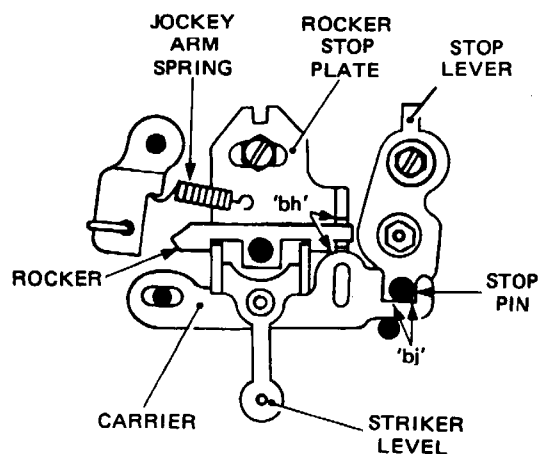
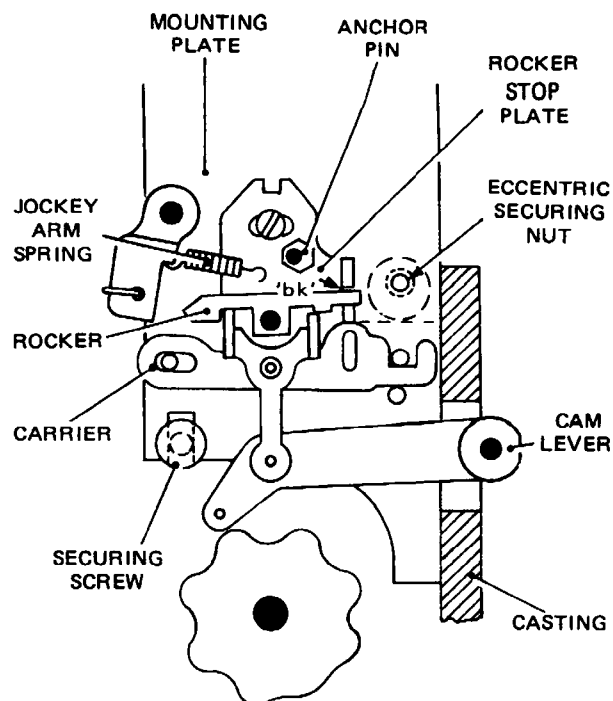

Fig. 4.62 MARK/SPACE SWITCH MECHANISM
Fig. 4.63 SWITCH MOUNTING PLATE (FRONT VIEW)
Before making further adjustments, remove the radio interference suppressor assembly, and unhook the jockey arm spring, Fig. 4.62, from its anchor pin. After the final adjustments of rocker stop plate and striker lever height, adjustment 72, hook the spring to the pin, and fit the suppressor assembly.
- 70.1 Slacken the screw securing the rocker stop plate, Fig. 4.63, set the carrier midway between the mark and space positions, raise the cam lever to insert both ends of the striker lever arms in the rocker, as shown in Fig. 4.62, set the stop plate to equalise the gaps 'bh', and secure the stop plate.
- 70.2 Slacken the screw securing the mounting plate, Fig. 4.63, slacken the nut securing the eccentric and, whilst holding the mounting plate against the casting, set the eccentric to provide visible clearance between the end of the rocker and both sides of the stop-plate gap for both the mark and space positions of the carrier. Secure the mounting plate and the eccentric.
- 71.3 Measure the gap between each side of the stop pin and the carrier slot (dimension 'bj' of Fig. 4.62), and check that the gaps do not differ by more than 0.004 inch.
Before making adjustments, remove the radio interference suppressor assembly and unhook the jockey arm spring, Fig. 4.63, from its anchor pin, if these actions are not already taken. After making the adjustment hook the spring to the pin, and fit the suppressor assembly.
- 72.1 Secure the start condition, hold the carrier in the space position as shown in Fig. 4.63, trip the clutch and turn the camshaft until the cam lever is on a peak of the cam. The rocker moves to the position shown.